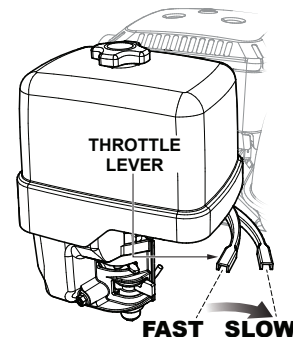

Figure 13. Throttle Lever
4. Move the throttle lever (Figure 13) away from the slow position, about 1/3 of the way toward the fast position.